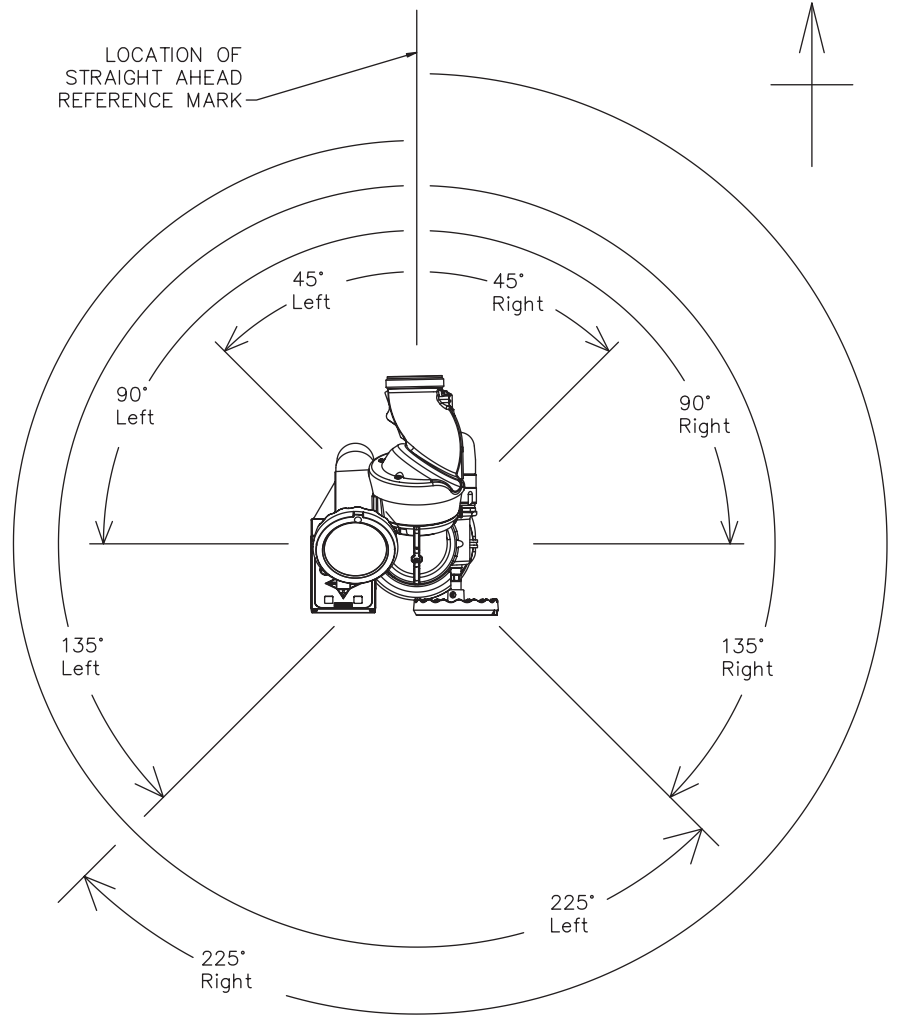

Fig 4.4A
- Mount so that 180 degree apart threaded crossholes will give desired direction relative to the "Straight Ahead Reference Mark" when the monitor is installed. See figure 4.4A.
The range of horizontal rotation travel for the manual Monsoon monitor is continuous 360 degrees. The motorized version is limited to 450 degrees total horizontal rotation travel or 225 degrees from either side of a straight ahead position. Horizontal rotation travel stop bolts may be installed in the monitor to limit travel as shown in figures 4.4A and 4.4B. Note that left and right are relative to the "Straight Ahead Reference Mark" (the Straight Ahead Reference Mark is shown in figures 4.2B and 4.2D) and refer to the nozzle's discharge direction as seen from an operator's position behind the nozzle. Figures 4.4A and 4.4B show the range of travel for the various stop bolt locations and give installation notes.